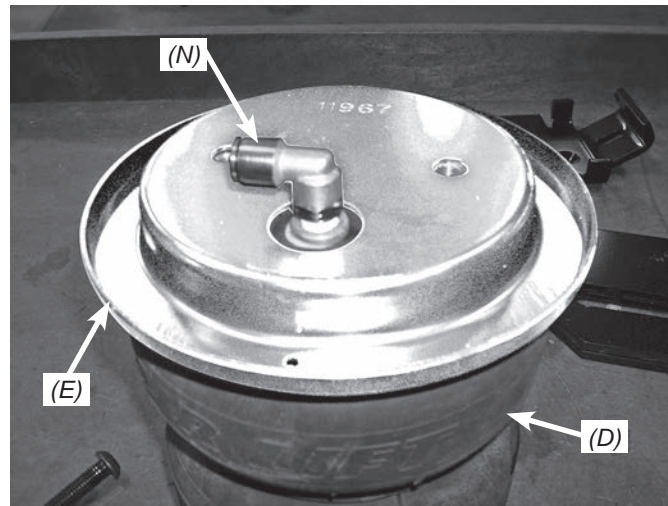

fig. 7
2. Install the swivel fitting (N) into the top of the air spring finger tight plus one and a half turns (Fig. 7).